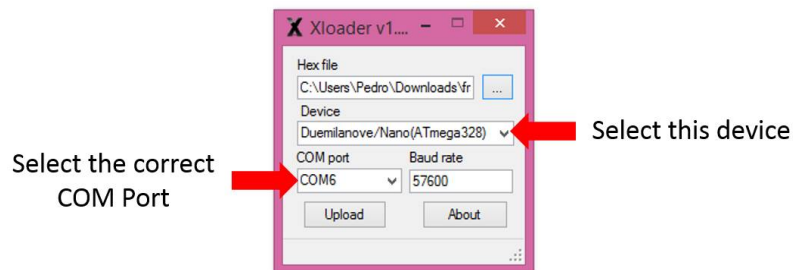

Figure 2: XLoader configuration
4. Launch XLoader and configure it according to Figure 2. Taking into account the path where the new firmware (HEX) file is;